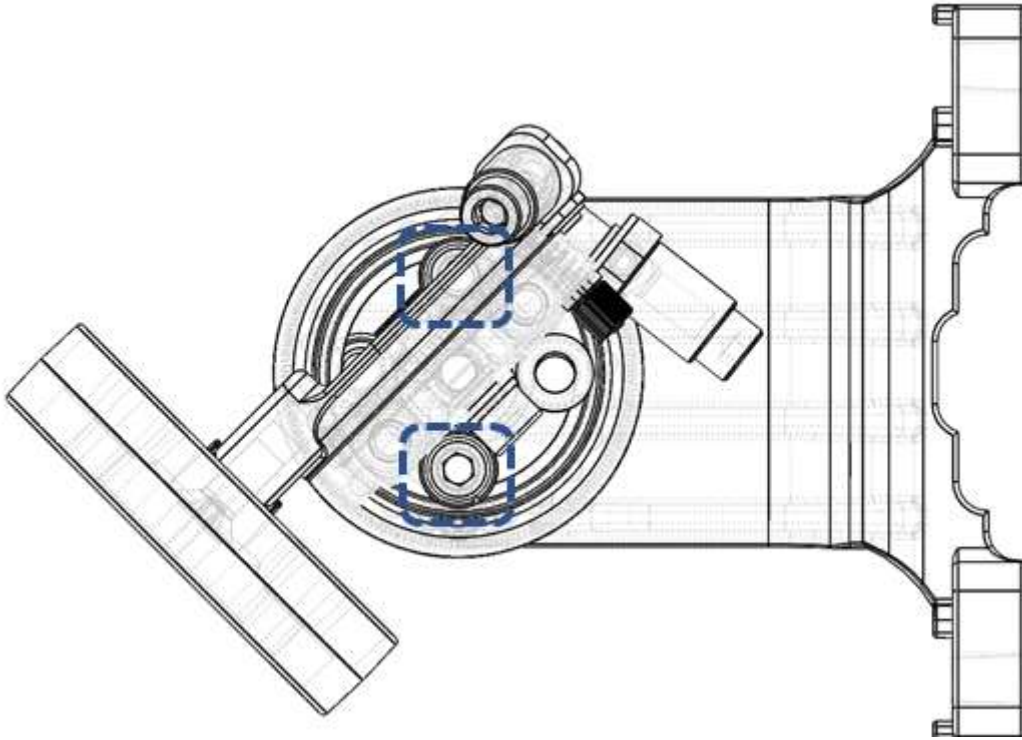
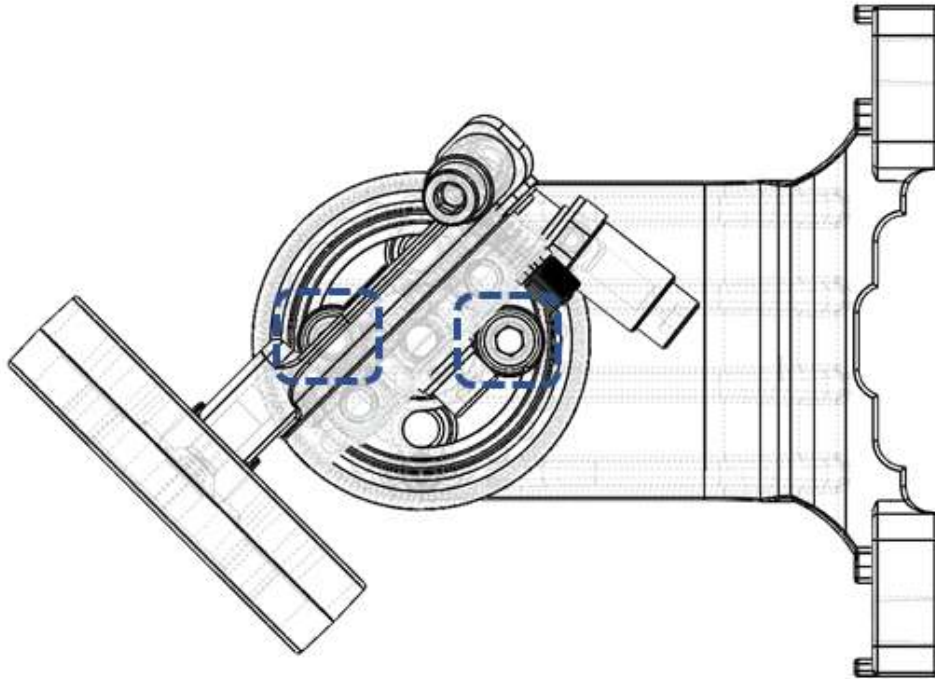

Figure 27: Azimuth Screws – Top View (Azimuth 45° to the Right)
Figure 29: Azimuth Screws in New Placement – Top View (Azimuth 45° to the Right)
- 3 Insert the Azimuth Screws in the holes opposite their previous locations. For example, if you are adjusting the azimuth to the left, move the Azimuth Screw to the left of the device from the left hole to the right hole and move the Azimuth Screw to the right of the device from the right hole to the left hole, as shown in *Figure 27* and *Figure 29*. This will place the azimuth at an angle of 45° to the left or 45° to the right.